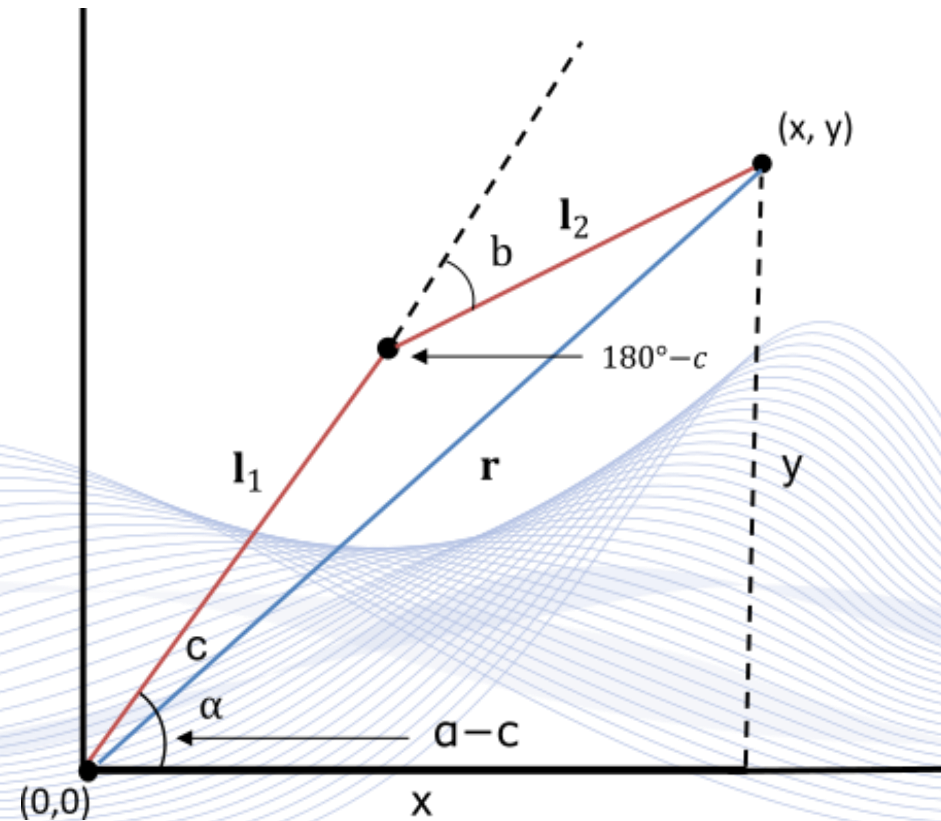

Fig 4: *Inverse kinematics of a two-link arm*
- Fig 4 shows the set of positions that the end effector can reach when ($l_1 < l_2$).